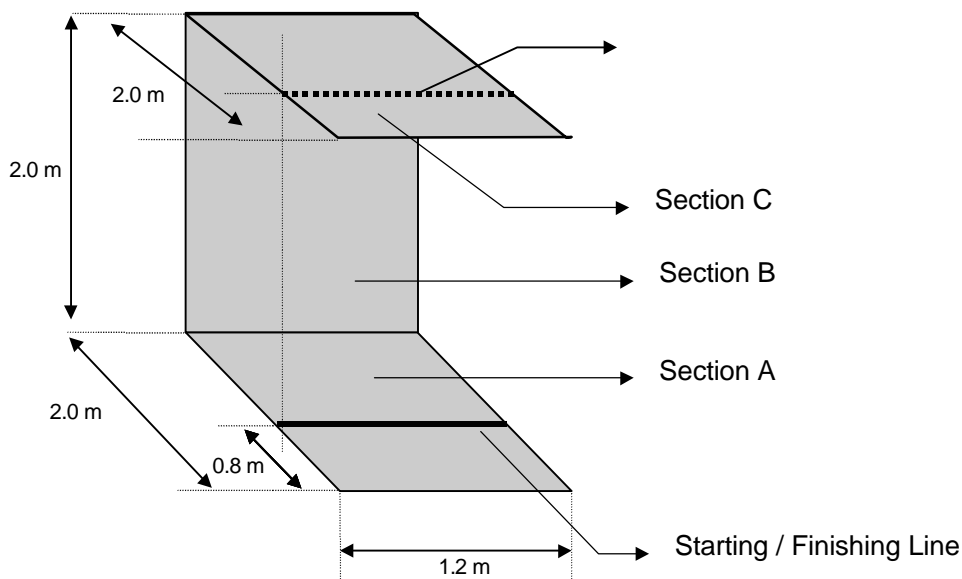

Figure 1: The wall for the wall-climbing robot race
2.1 The wall is shown in Figure 1 below. It consists of three sections: a 2 metre long horizontal section (section A) on the ground followed by a 2 metre high vertical section (section B) followed by a 2 metre long horizontal section (section C) at the top, with each section 1.2 metres wide.
- 2.4 The supporting structure for the wall will have provision for *two* safety cables to be attached to the robot so that both cables can be used simultaneously during the race (*not* shown in Figure 1.)
The wall will be deemed to have satisfied criteria (a) and (b) above and be considered fit for use if each of the two distances between diagonally opposite corners (using the side view in Figure 1) lies in the range 2733 mm to 2847 mm.